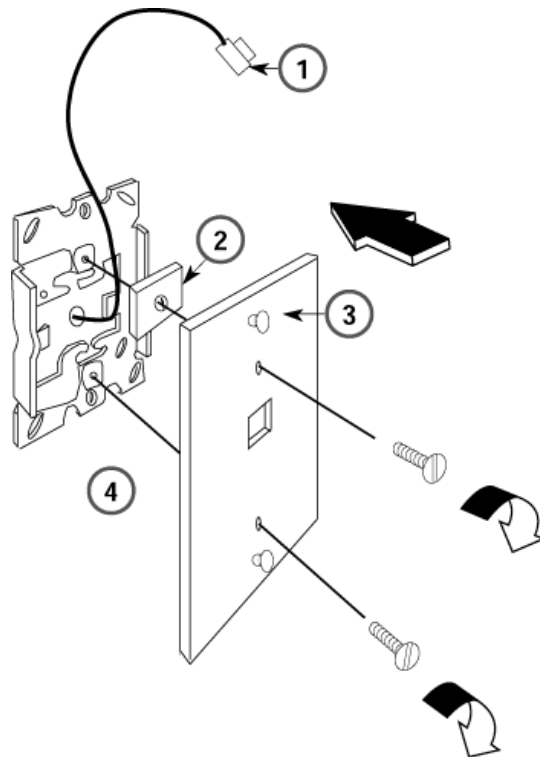

Figure 3-8. Mounting the Backplate
3. Route the D8W cord (or DIW cable) through the hole in the backplate and have it exit at the top of the backplate; leave 10 in. (25 cm) of cord to connect the telephone. See Figure 3-8.